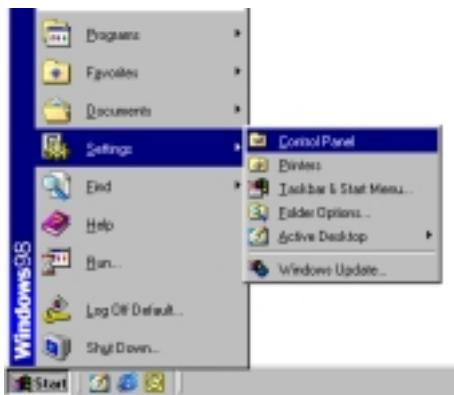

Figure 2.1 Starting Alternate SMS2 Installation
- a. Click the Start button located on the Windows Task Bar (Figure 2.1).
- b. Click Settings (Figure 2.1).
- c. Click Control Panel (Figure 2.1).